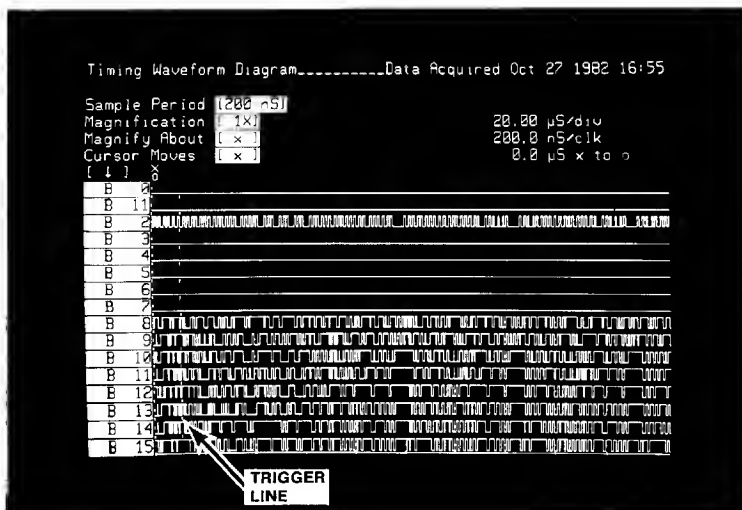

Figure 3-16. Triggering On A Timing Event
9. See figure 3-16. Note the vertical, dashed line on the display. This line identifies the trigger point.